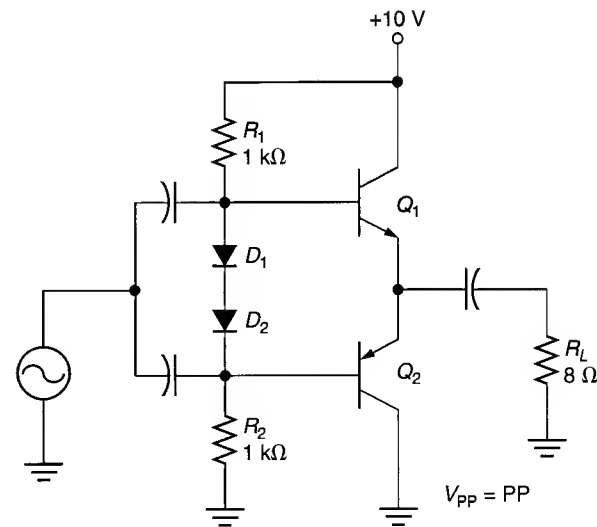

FIGURE 11.57
34. Determine the values of V_{CEQ} , $V_{B(Q1)}$, and $V_{B(Q2)}$ for the class AB amplifier in Figure 11.57.
36. Calculate the maximum efficiency of the class AB amplifier in Figure 11.57.